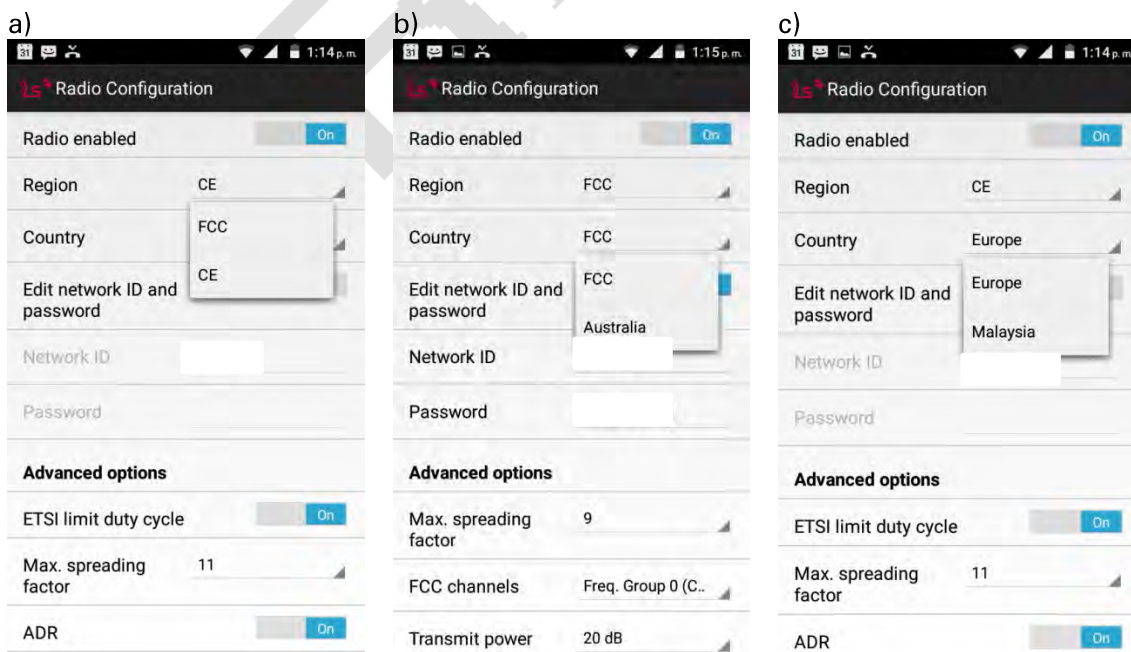

Figure 11: Radio configuration screen.
- 4) **Radio configuration.** This is the panel where radio configurations are set. You are required to set the correct region and country to comply with local regulations. The network is identified by a Network ID, and protected with a password. All dataloggers and the gateway of an installation need to have identical settings (country and password). The default credentials of the radio network are specified in the Gateway Information Sheet (Figure 11). The advanced options should not be changed in the majority of installations. For more details on the advanced options, check Section 4 of this manual.